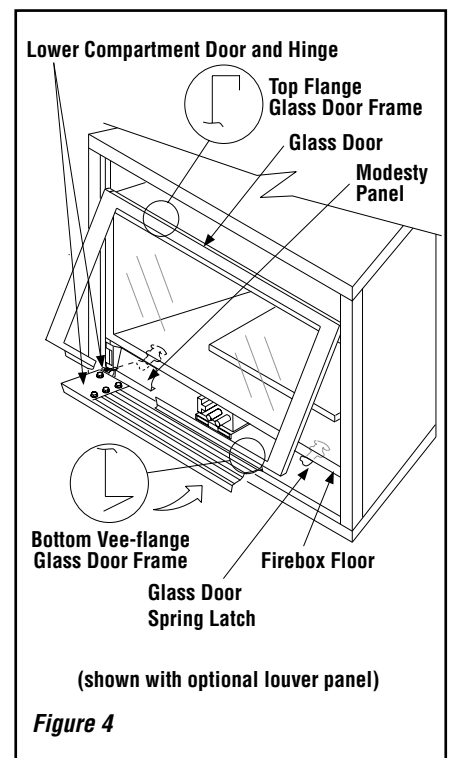

Figure 4
Removing Glass Enclosure Panel (see Figure 4)
To access the glass door securing spring latches, first open the lower control compartment door (Figure 4) by pushing in simultaneously the left and right top corners of the door (the door is hinged at the bottom).
Locate the two (2) glass door spring latches at the top of the control compartment (see Figure 4). Pull out each spring latch until it disengages from the door frame bottom vee-flange. Remove the door by tilting it outward at the bottom and lifting it up. Set the door aside, taking care to protect it from inadvertent damage.
Installing Glass Enclosure Panel (see Figure 4)
Position the door in front of the firebox opening with the bottom of the door held away from the fireplace (Figure 4). Hook the top flange of the door frame over the top of the firebox frame.